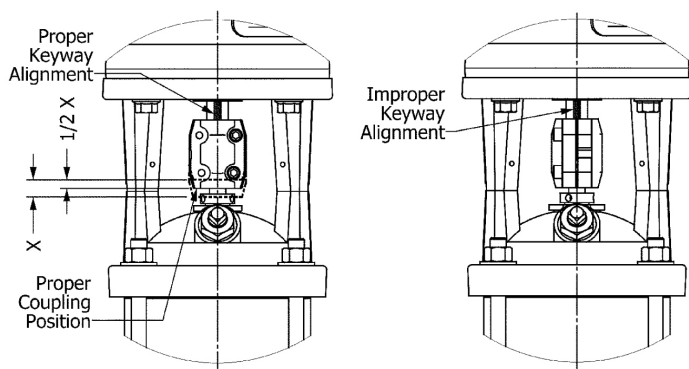

Figure 3 - Coupling Alignment
5. Locate shaft keyway in center of Coupling (See Figure 3) and maintain this position, then snug up Fasteners evenly. Check gap between coupling halves to be sure it remains even on both sides. Torque Fasteners to the following specifications.